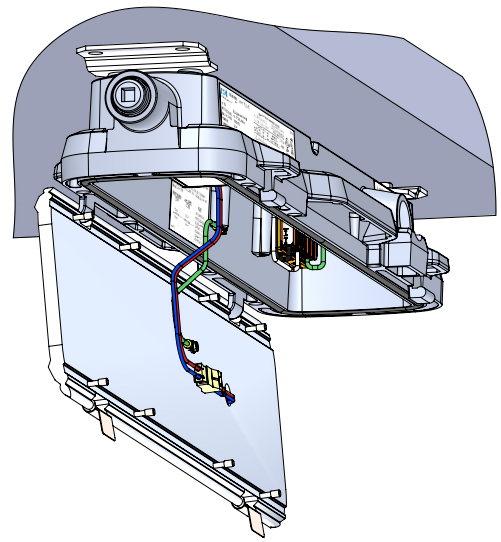

Figure 2. LED light engine fitting open servicing position
4. Pull on retention clips to free light engine from driver housing and pivot light engine to open position while light engine supported by driver housing hooks (see Figure 2).
7. Remove ground screw from LED light engine fitting (see Figure 2).
11. Connect ground wire to replacement LED light engine fitting (see Figure 2). Torque fastener to 20 in.-lb.(2.3 N-m).